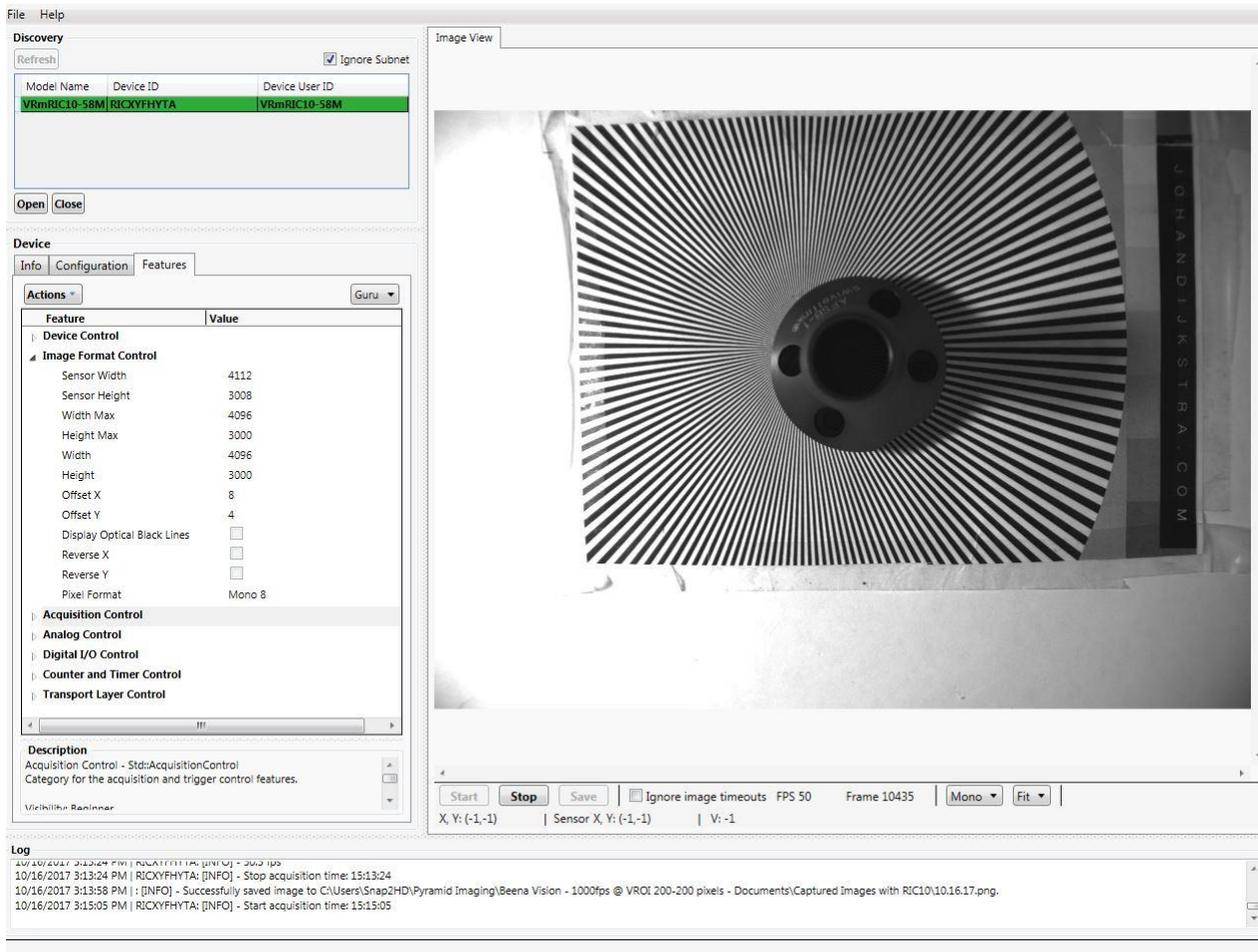

Figure 12: Live image, full resolution.
- Once there, hit the Stop button so that you can modify parameters. Then follow this sequence of actions: Within Device>in the Features tab>Expand Image Format Control>Change Height to 2000. Refer to Figure 12 for more detail.